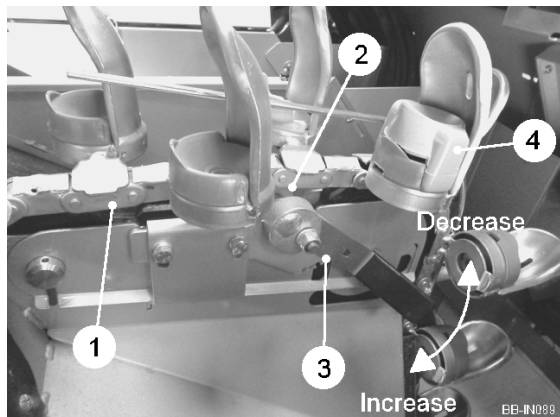

Fig. 8
The cup chain (item 1, fig. 8) transfers the seed from the feed pocket to the ground. The agitator roller (item 2, fig. 8) vibrates the cups preventing 'doubles'. The excess potatoes fall back into the feed pocket. The amount of agitation is increased / decreased by setting the handle (item 3, fig. 8).
Never adjust the agitator handle (item 3, fig. 8) with the cup chain running.
To remove an insert cup, using a suitable diameter punch, push the centre plug out through the bottom of the cup to release it. The new insert cup can then be fixed in position by refitting the plug (chamfer downwards) into the centre of the new cup from above. The blue insert cups (item 4, fig. 8) are designed to fit inside the red cups as shown. When inserting the blue cups, the centre plugs will need to be removed first.